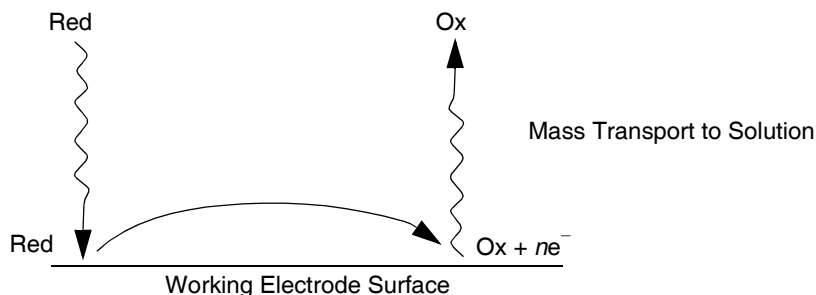

Figure 1-1 Electrolysis at Working Electrode
Electrochemical detection differs from other detection methods in that the analyte undergoes an electrochemical reaction while being detected (Figure 1-1). Upon elution from the column, the analyte passes through the electrochemical cell, where it undergoes either oxidation or reduction at the working electrode (WE). The controller (potentiostat)